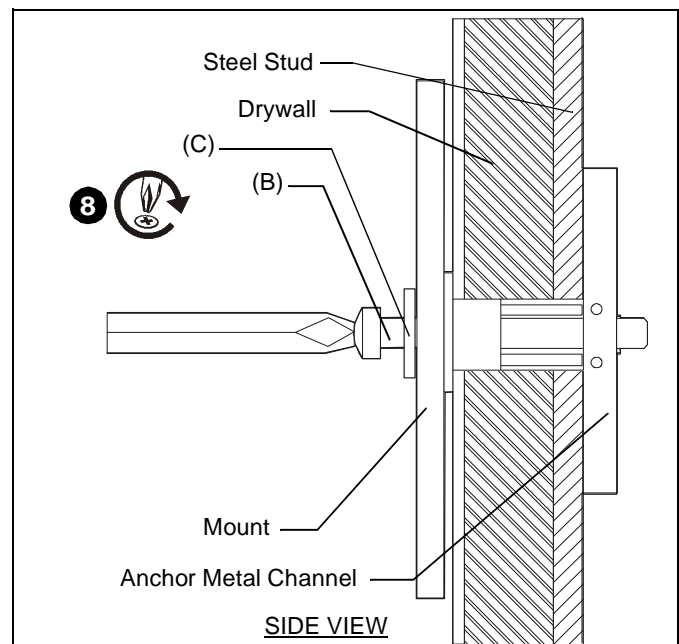

Figure 4
7. Place mount over anchors and align mounting holes in display mount with holes in anchors. (See Figure 4)
8. Insert 1/4-20 x 1-3/4" Phillips pan head screw (B) through 1/4" washer (C), corresponding mounting hole on mount and into anchor (A) and tighten until flush against mount. DO NOT overtighten! (See Figure 4)